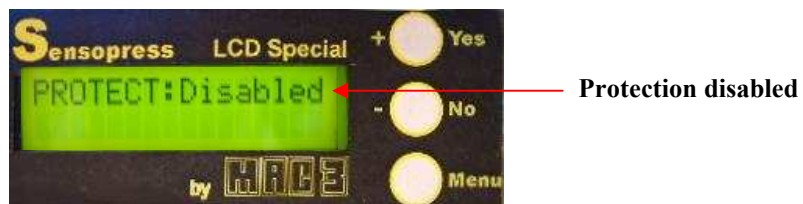

Fig. 11
□ To disable the protection proceed as follows: (fig. 11)